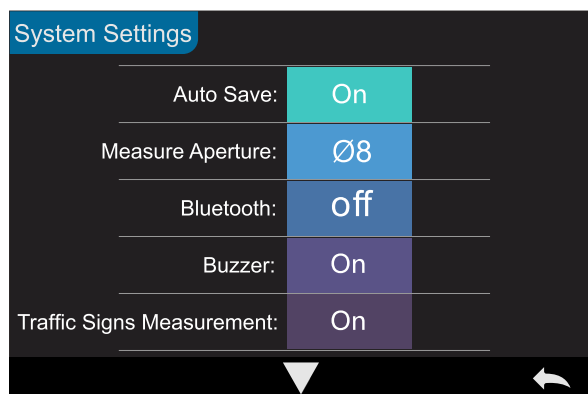
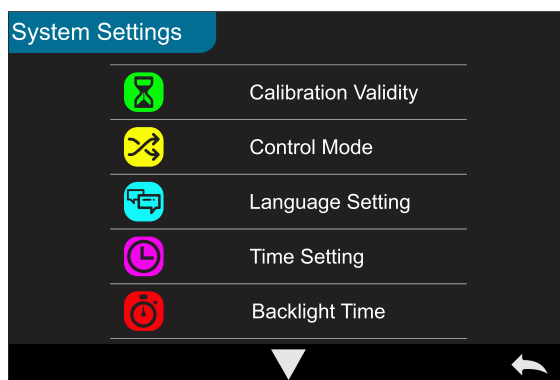
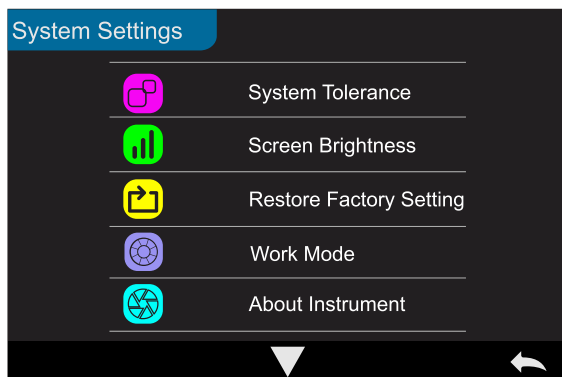

Figure 49 System Settings Interface 1
Figure 50 System Settings Interface 2
Figure 51 System Settings Interface 3
Click "System Settings" in the main menu to enter the system setting interface, as shown in Figure 49 (Figure 12), Figure 50, Figure 51.
Step 3, Switch the measurement aperture set by the instrument system to match the actual measurement aperture. Figure 49 shows that the current measurement aperture is Φ8mm. After switching the measurement aperture, you must re-black and white calibration, and follow the instructions of the instrument to complete the black and white calibration.